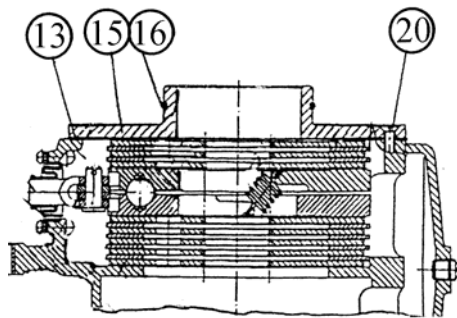

Figure 4.150
3) visually check quality of spacer 13 (Figure 4.150) and if damaged, install new poronyte 1 mm thick spacer;